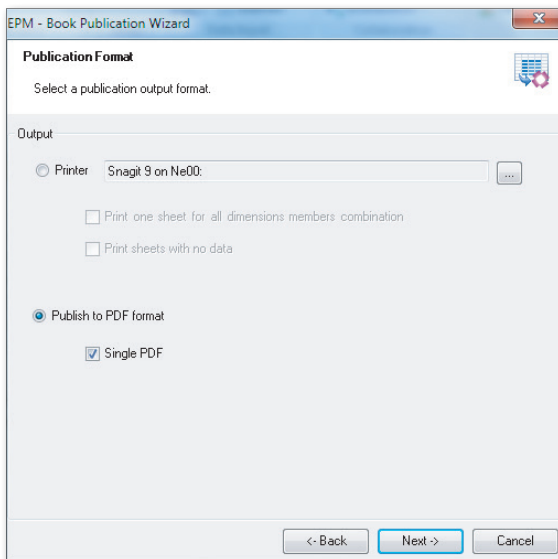

Figure 7.33 Publishing a Book Template—Part B
3. Choose an output mode for publishing when the PUBLISH NOW option is selected (Figure 7.33):